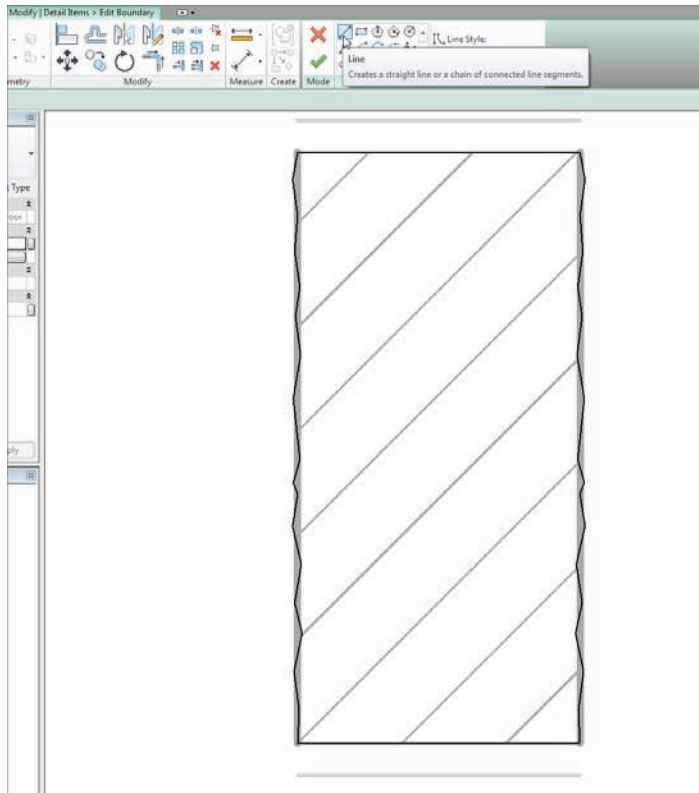

FIGURE 12.19 Adding a texture to the brick family
12. On the Draw panel, select the Line button, as shown near the top of Figure 12.19.
14. Draw a series of jagged lines on the right and left of the brick, as shown in Figure 12.19.